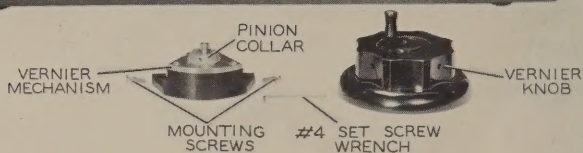

Figure 3. Step 2
3. Figure 3 shows the parts necessary to install the new tuning knob. Arrange these parts as shown and set all others aside.